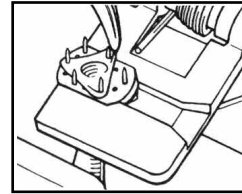
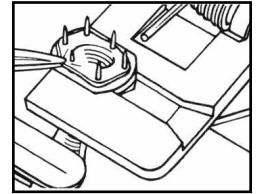
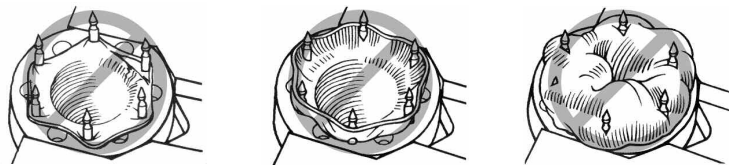

Figure 7
Figure 8
Figure 9
9. Take a bite of approximately one to two pin diameters of the vessel wall and intimal lining, evert 90 degrees and impale onto one pin. Proceeding in a triangular fashion, impale the vessel firmly upon every other pin, completing three pins (See Figure 7). Complete vessel placement on the ring by impaling the vessel upon the remaining three intermediate pins (See Figure 8). Ensure that both the vessel wall and the intimal layer are fully impaled upon each pin to reduce the risk of thrombosis. Should the vessel wall tear during impalement, remove the vessel, trim the end, and repeat the procedure. For examples of improper impalement of the vessel see Figure 9.